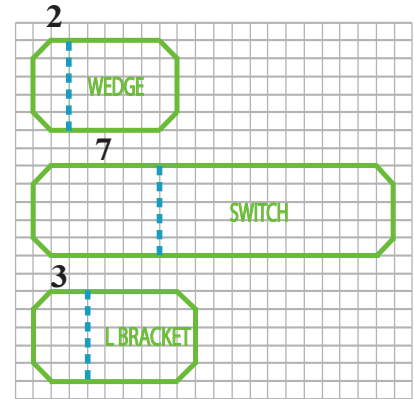

Fig. 17
Step 2. Sketch the lines in **Fig. 17**.